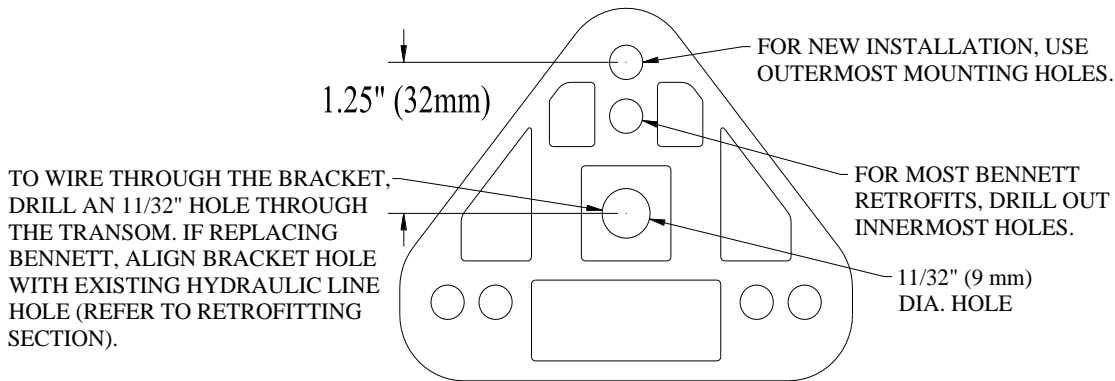

Fig. 3
3. For new installation, punch or drill out the 3 outermost holes in the actuator upper mounting bracket. For Bennett retrofits, punch out the innermost upper bracket mounting holes to match the existing Bennett hole pattern (see Fig. 3).
7. Use Fig. 3 as a diagram to drill out an 11/32" (9mm) hole for the actuator cable to pass through the transom. Another option would be to drill the same size hole at higher entry point on the transom and use a clamshell with sealant.